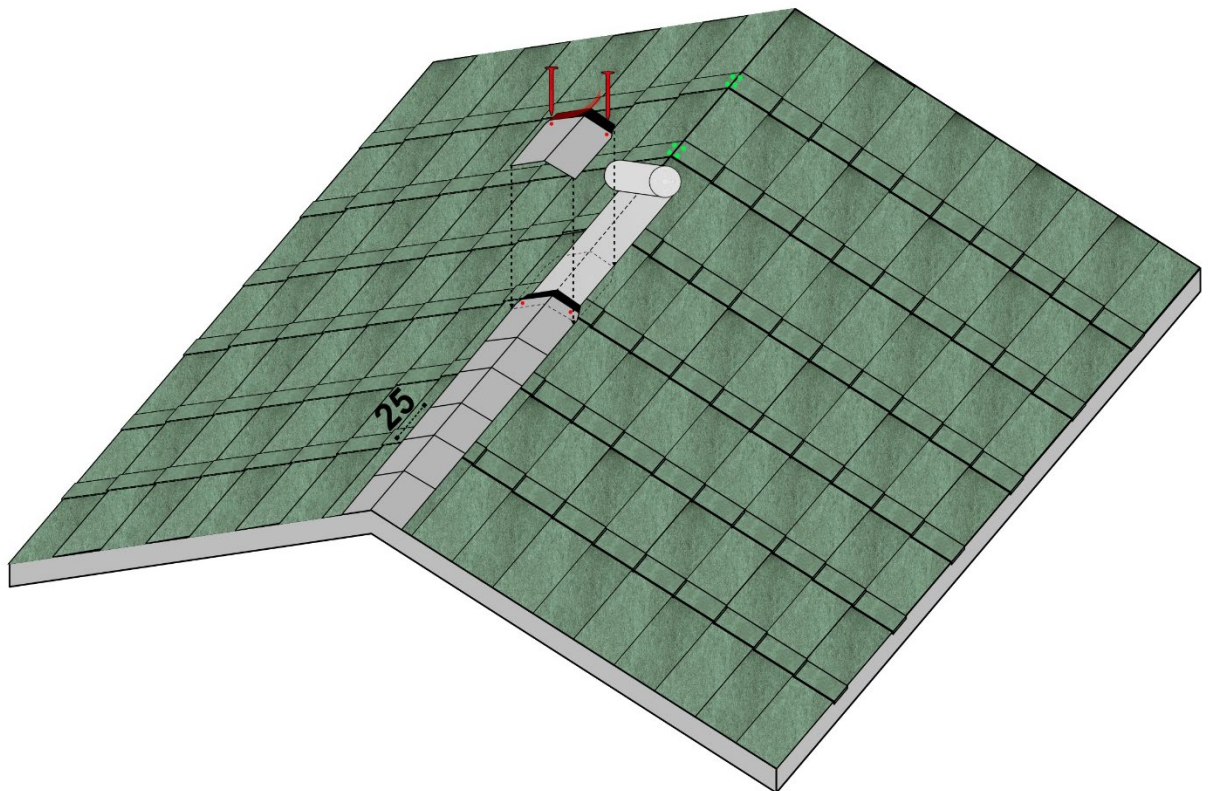

Fig. 14 - Top Roll and ridge elements installation
- Place the Top Roll Colmo SA along the center of the ridge line, removing the protective film from the underside of the roll that covers the butyl tape. This will waterproof the ridge itself where the ridge shingles are cut - Fig. 14. Fix the ridge elements onto the Top Roll Colmo SA with 2 nails, each at least 32mm in length, one nail for each side of the pitch - Fig. 14. Proceed with the installation of the other ridge elements, leaving an exposed part of 25cm between each element and the following one.